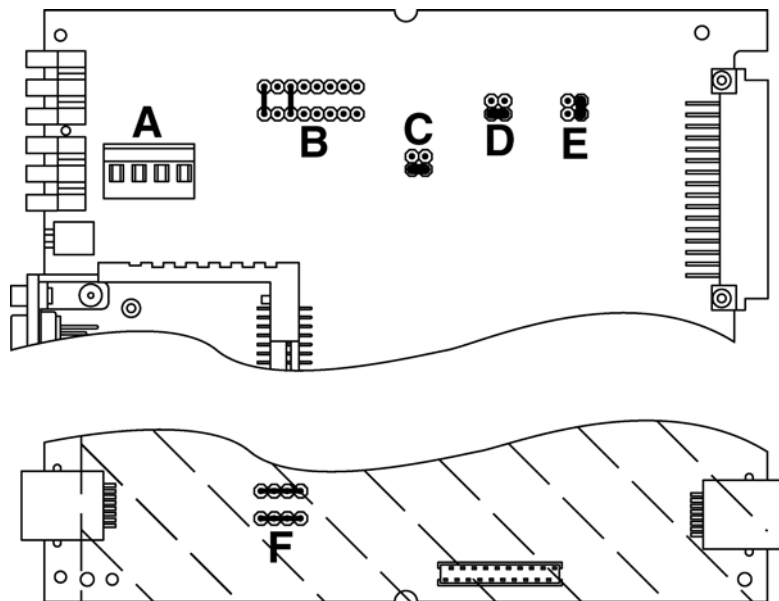

Fig. 2.31 Jumper settings: HTU desktop unit, local supply; DC; with RPS; with desktop power adapter SNP-A03T-S
6. Set the jumpers according to Chapter 2.6.3, Fig. 2.31 to battery supply (48 V_{DC})